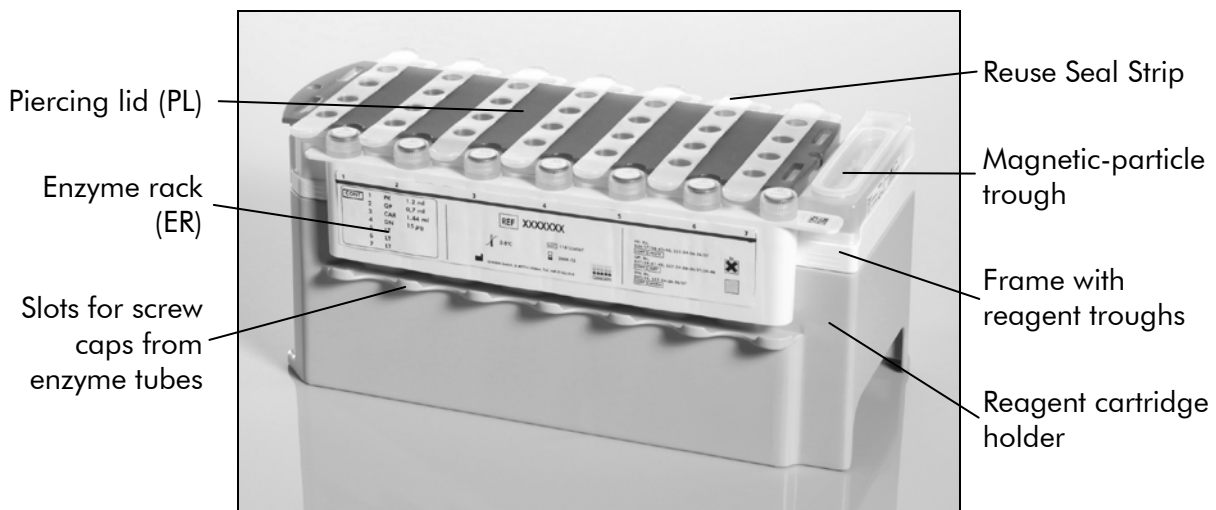

Figure 3. QIASymphony reagent cartridge (RC). The reagent cartridge (RC) contains all reagents required for the purification procedure.
Reagents for purification of nucleic acids are contained in an innovative reagent cartridge (RC) (see Figure 3). Each trough of the reagent cartridge (RC) contains a particular reagent, such as magnetic particles, lysis buffer, wash buffer, or elution buffer. Partially used reagent cartridges (RC) can be reclosed with Reuse Seal Strips for later reuse, which avoids generation of waste due to leftover reagents at the end of the purification procedure.
After the magnetic-particle trough cover is removed and the enzyme rack tubes are opened (screw caps can be stored in dedicated slots, see Figure 3), the